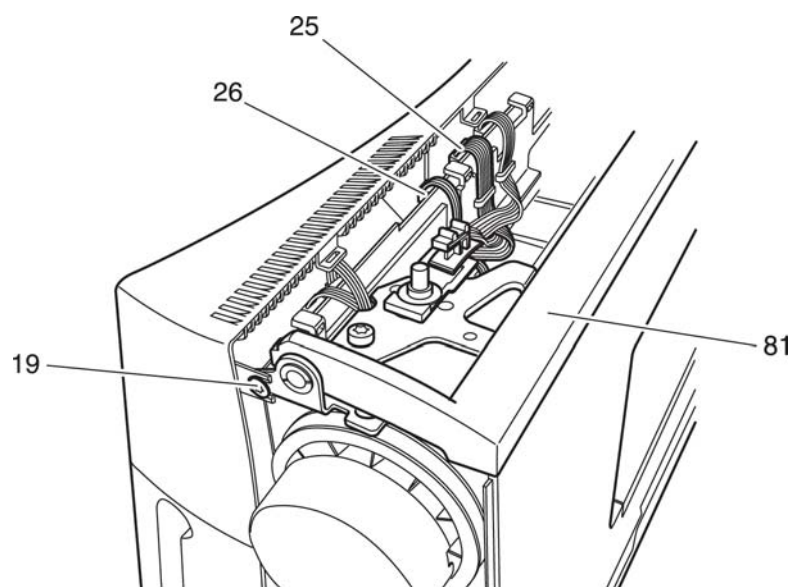

Fig. 48b
- Fit the two plug sockets 25 and 26 for the flat cable on the circuit board (Fig. 48b).